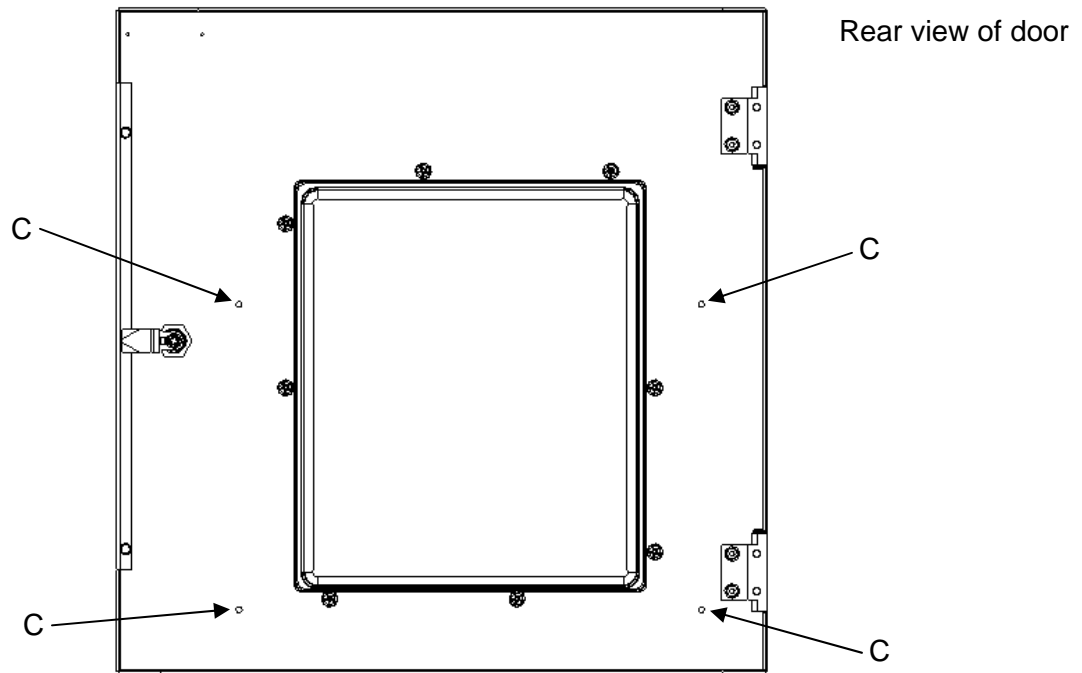

Fig. 2.3 Drill (4) 7/32" holes
5. Drill (4) 7/32" [0.218"] diameter holes. See Fig 2.3, item C.